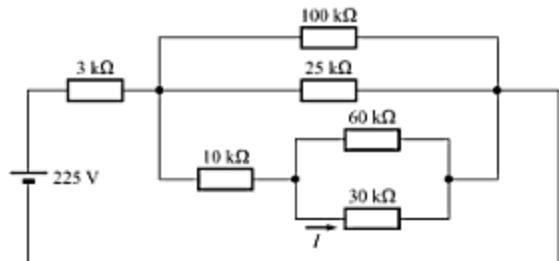

Fig. A-111
- A-78. Use repeated current division to find I in the circuit of Fig. A-111.